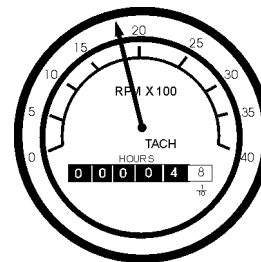

Figure 59. Engine Tachometer
16. The tachometer (Figure 59) will indicate the speed of the engine when the generator is operating. Under normal operating conditions this speed should be approximately 1800 RPM's.